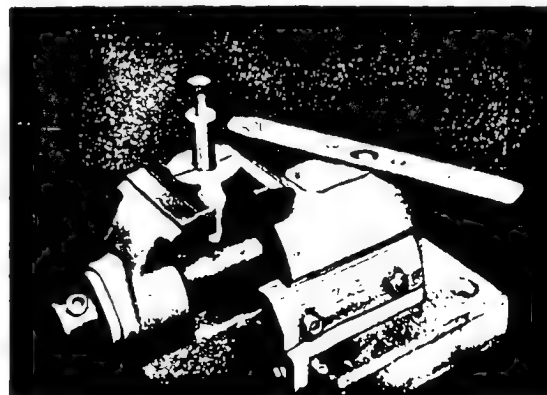

Fig. 7 0 681 340 015 (EFEP 322) assembly tool clamped in vise
3. Clamp 0 681 340 015 (EFEP 322) assembly tool (Fig. 7) in vise and fix timing device on it so that the two grooves in the guide bush of the coupling flange mate with the cross ridge of the tool. Locate timing device securely with hex-head screw and washer.